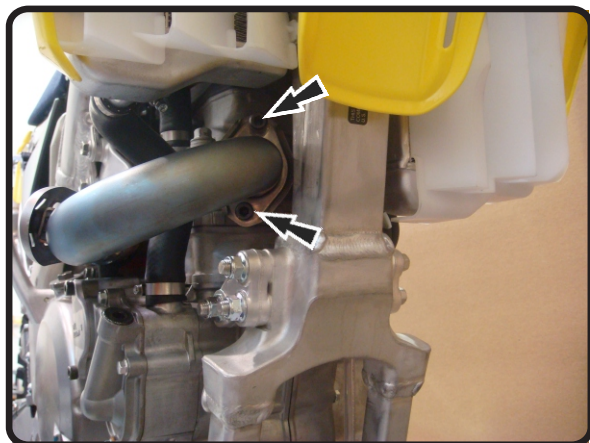

Fig. 3
- Remove stock header (see Fig. 3 for fastener locations).